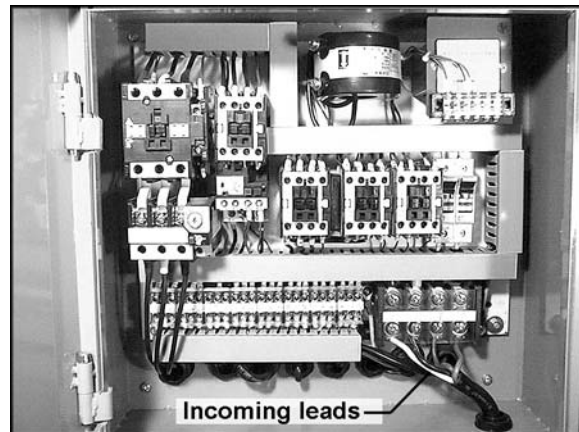

Figure 5
3. Open the sander's electrical box and connect the three incoming power leads to the terminals marked R,S,T. See Figure 5. Connect the green ground wire to grounding terminal E.